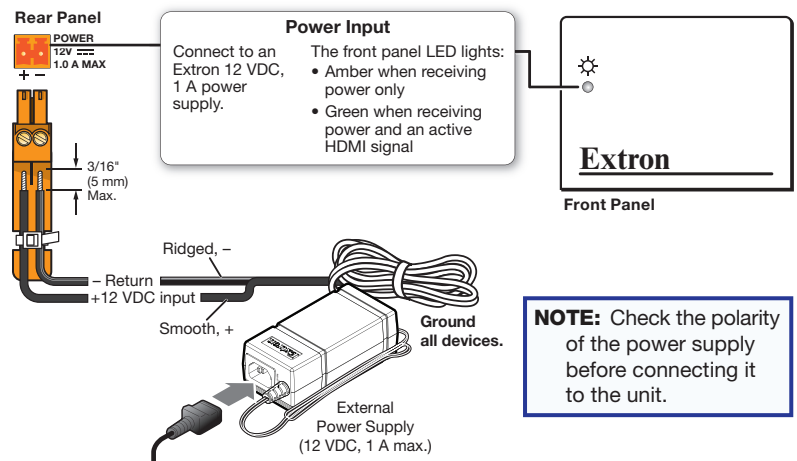

Figure 4. 12 VDC, 1A Power Input
- 1 **12 VDC power input** — Connect the provided 12 VDC, 1A power supply to the rear panel captive screw connector (see figure 4). When power is provided to the unit but there is no HDMI input, the front panel lights amber.